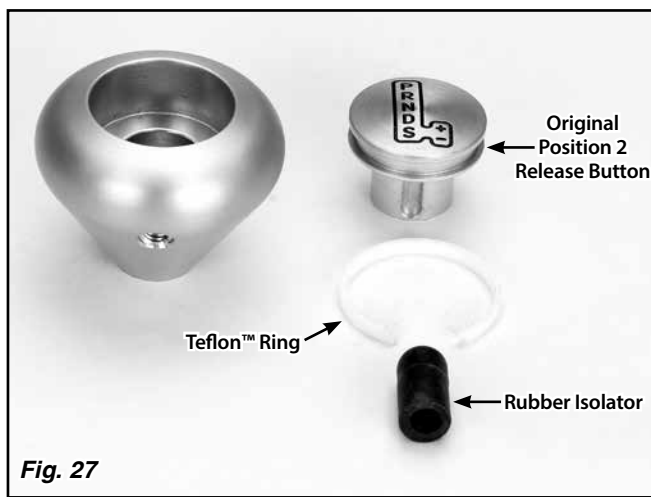

Fig. 27
Step 13: Remove the Teflon™ ring from the release button. Use a pair of needle nose pliers to remove the rubber isolator from inside the release button. **Fig. 27** Install the rubber isolator into the new Position 1 release button, making sure the closed end of the rubber isolator goes into the button first.